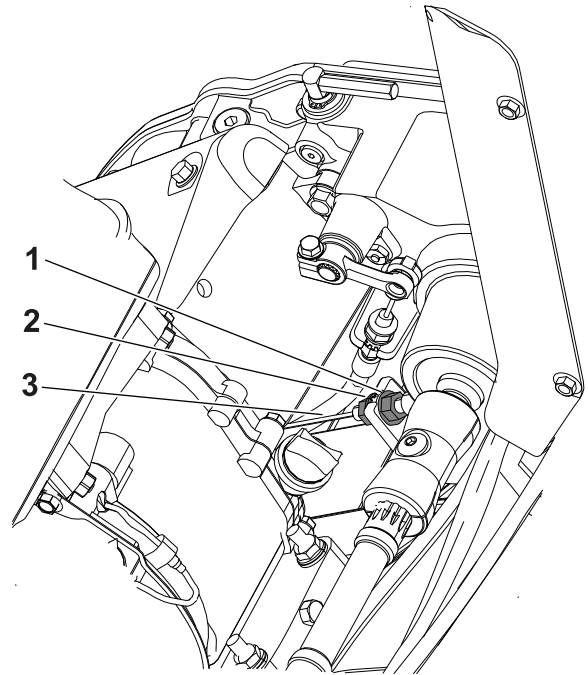

Figure 34
2. Loosen the rear jam nut and tighten the front jam nut (Figure 34).